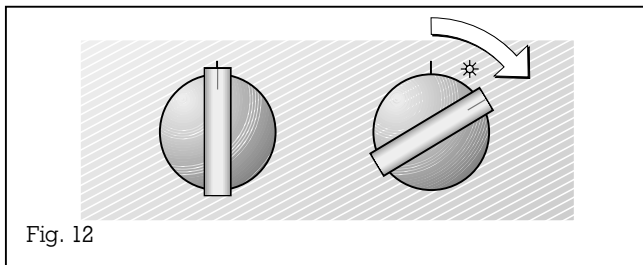

Fig. 12
– Turn the “Temperature” control knob by one latching position to the right (Fig. 12).